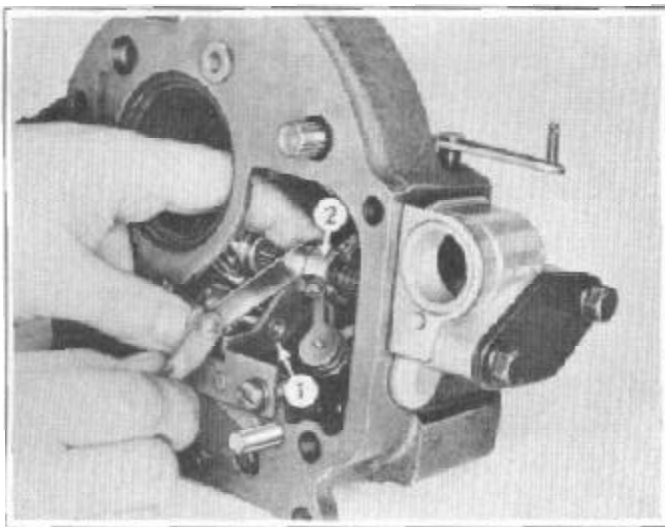

FIGURE 28
3. Examine direct drive pawl (8), rocker arm (9), retaining plate (11), and governor fork (1) for burrs or damage.
4. Check to be sure that the governor valve (10), or governor control plunger assembly (12), is not sticking in the housing bore. Use a fine stone to remove small burrs or rough spots to eliminate bind.
6. Check end play of the governor fork (1), Figure 28, in the groove of the governor end bracket (2).
8. Turn the toggle arm splined shaft so that the wide spline is to the left, to index with the toggle arm sleeve in the transmission case, Figure 28.